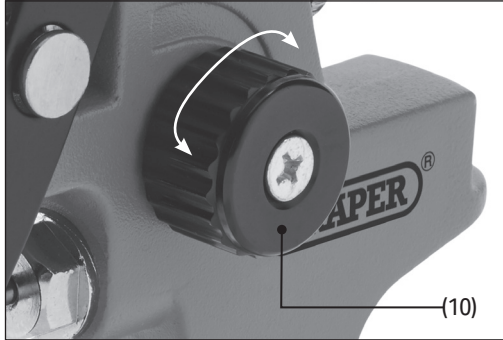

Fig. 12
The spray control dial (10) adjusts the shape of the paint jet released from the nozzle. The spray control dial can be rotated more than 360° (Fig. 12).